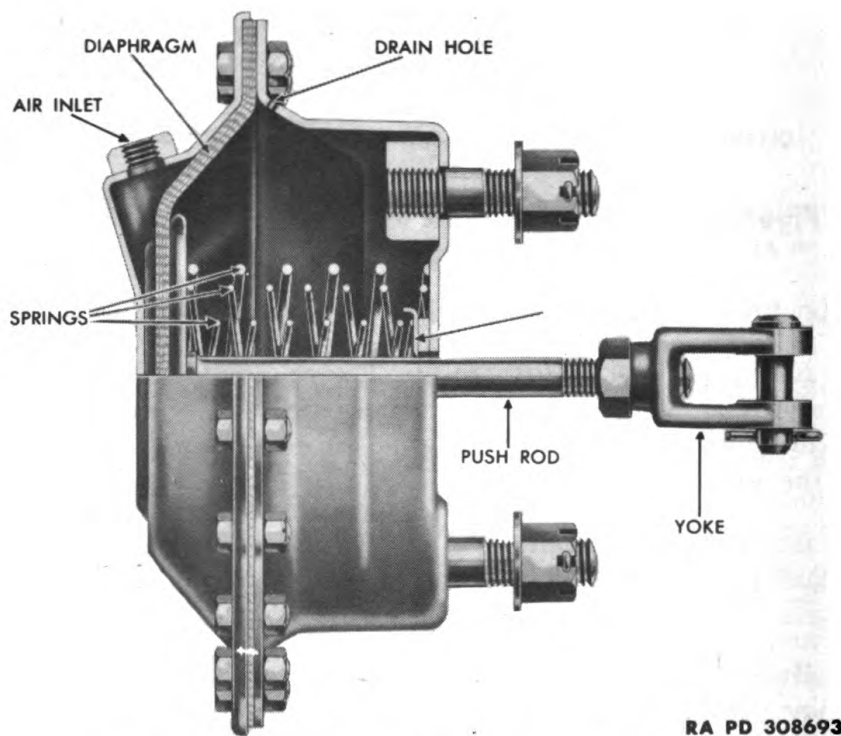

Figure 28—Brake Chamber—Sectional View
34. BRAKE CHAMBERS (fig. 28).
(1) Apply the brakes and observe that brake chamber push rods (fig. 28) move out promptly without any evidence of binding.
(2) Release the brakes and observe that brake chamber push rods return to release position promptly without any evidence of binding.